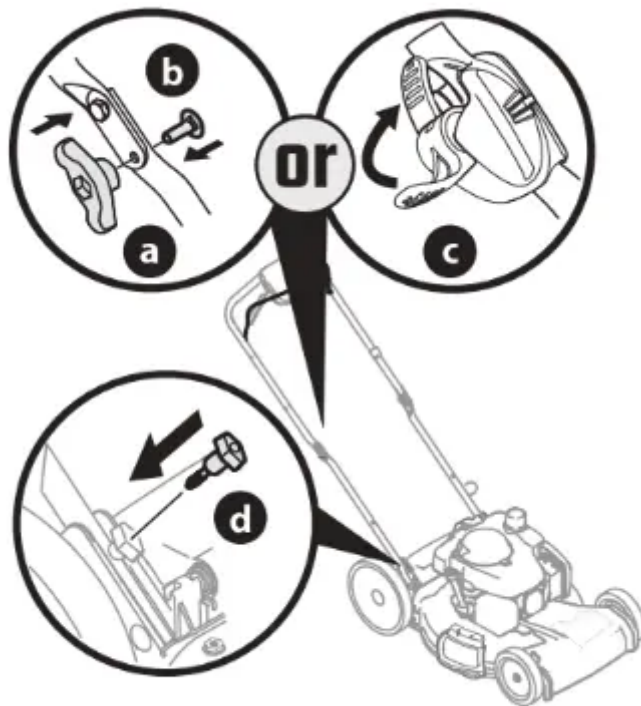

Figure 8
4, Reattach knobs or wing nuts (a) and carriage bolts (b) removed in STEP 2 into lower holes of the handle or lock the EZ-fold handle release levers (c) (Figure 8).
5. Using the T-bolts (4) removed in STEP 2, secure the lower handle to the handle brackets (Figure 8) and tighten securely to secure the handle in place